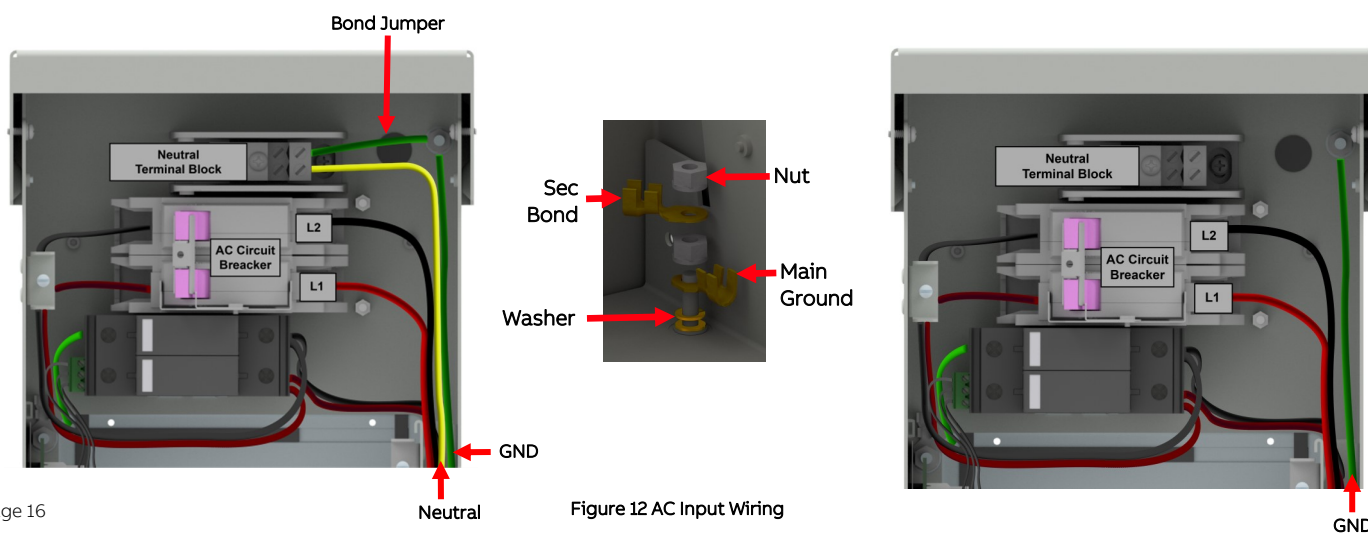

Figure 12 AC Input Wiring
7. Connect the Line 1 wire to the lower position of the 2-pole circuit breaker. Refer figure 12.
10. Connect the Line 2 wire to the upper position of the 2-pole circuit breaker. Refer figure 12.